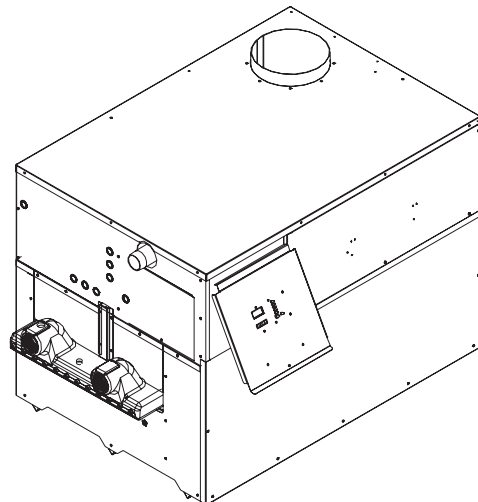

Figure 41 - Control Panel Cover
3. Loosen knurled screw at the bottom of control panel cover (see Figure 41).